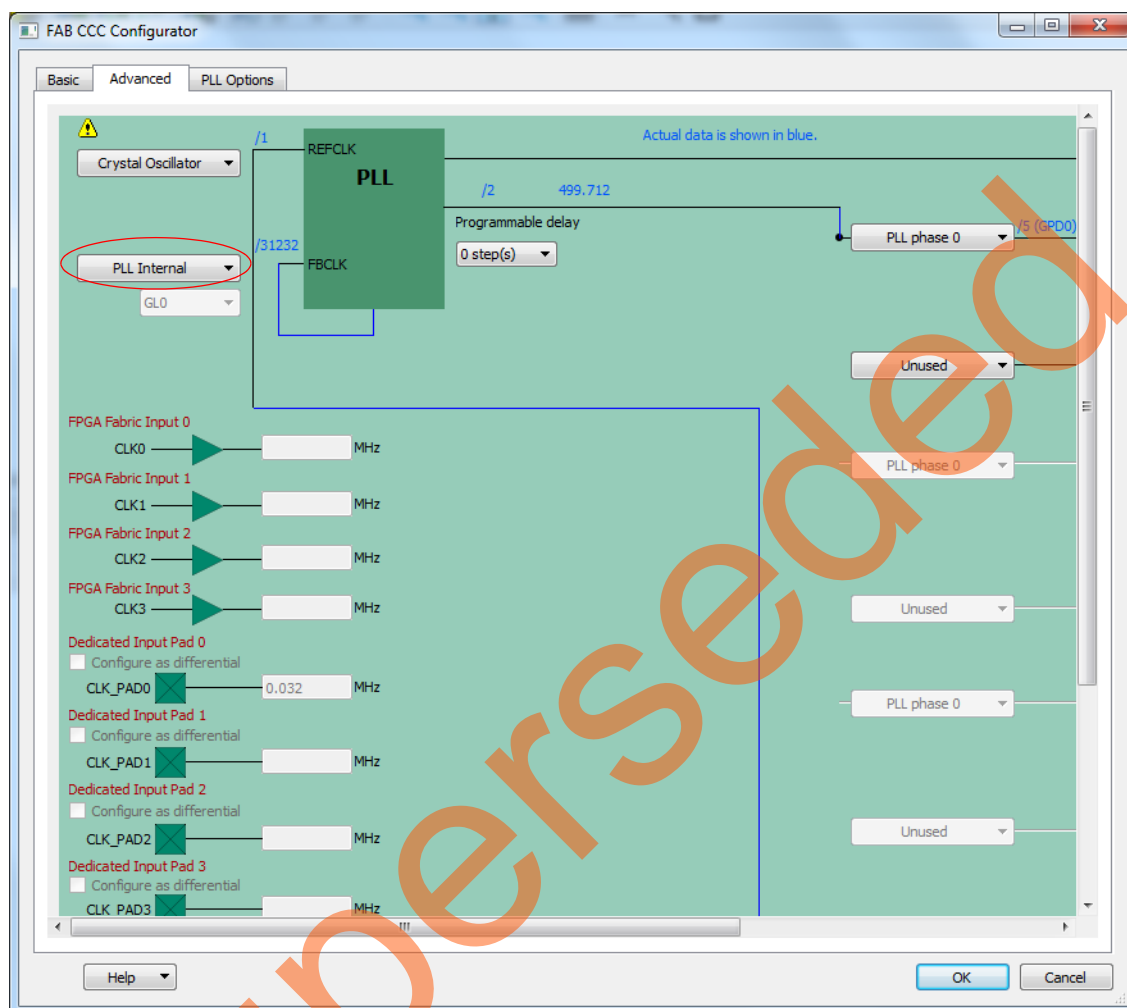

Figure 10 • Configuring PLL Feedback Source
16. Click **Advanced** tab in the **FAB CCC Configurator** window and select **Internal > PLL Internal** from the pull-down menu as PLL feedback source, as shown in Figure 10.